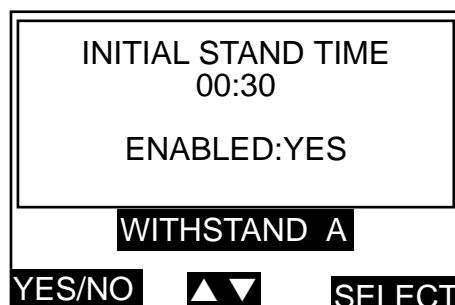

Figure 15. Withstand test initial stand time selection display screen.
2. Press the left hand key labelled A. The display changes to appear similar to figure 15.